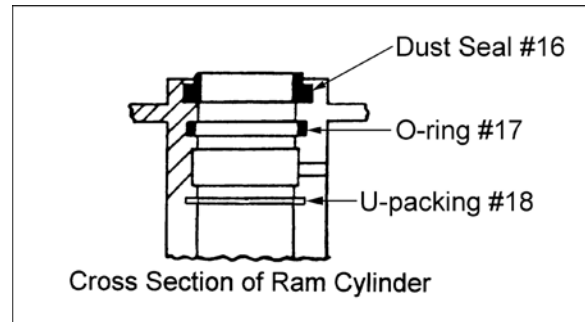

Figure 8
5. Remove all o-rings and seals (see Figure 8).